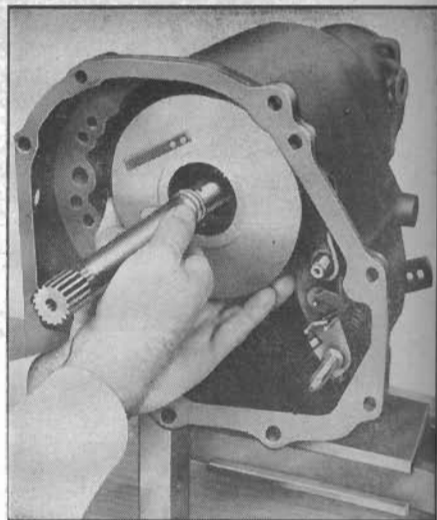

Fig. 66 Installing clutch and shaft into case. 1950-59
15. Install unit assembly into case, indexing input shaft pilot with pilot in output shaft and low sun gear with short pinions in planet carrier, Fig. 66.